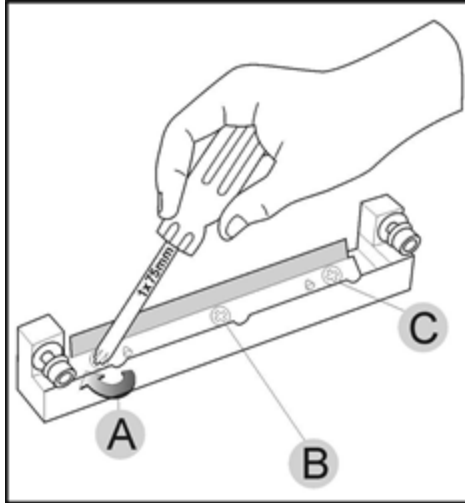

Figure 6-49 Tightening the roller scraper screws
- Tighten the screws in the order shown in Figure 6-49.